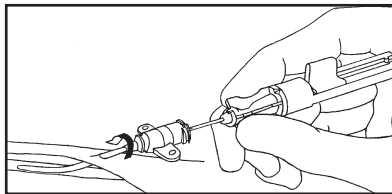

Figure 4
9. Firmly hold introducer needle hub in position and advance catheter forward, over spring-wire guide into vessel (refer to Figure 4).